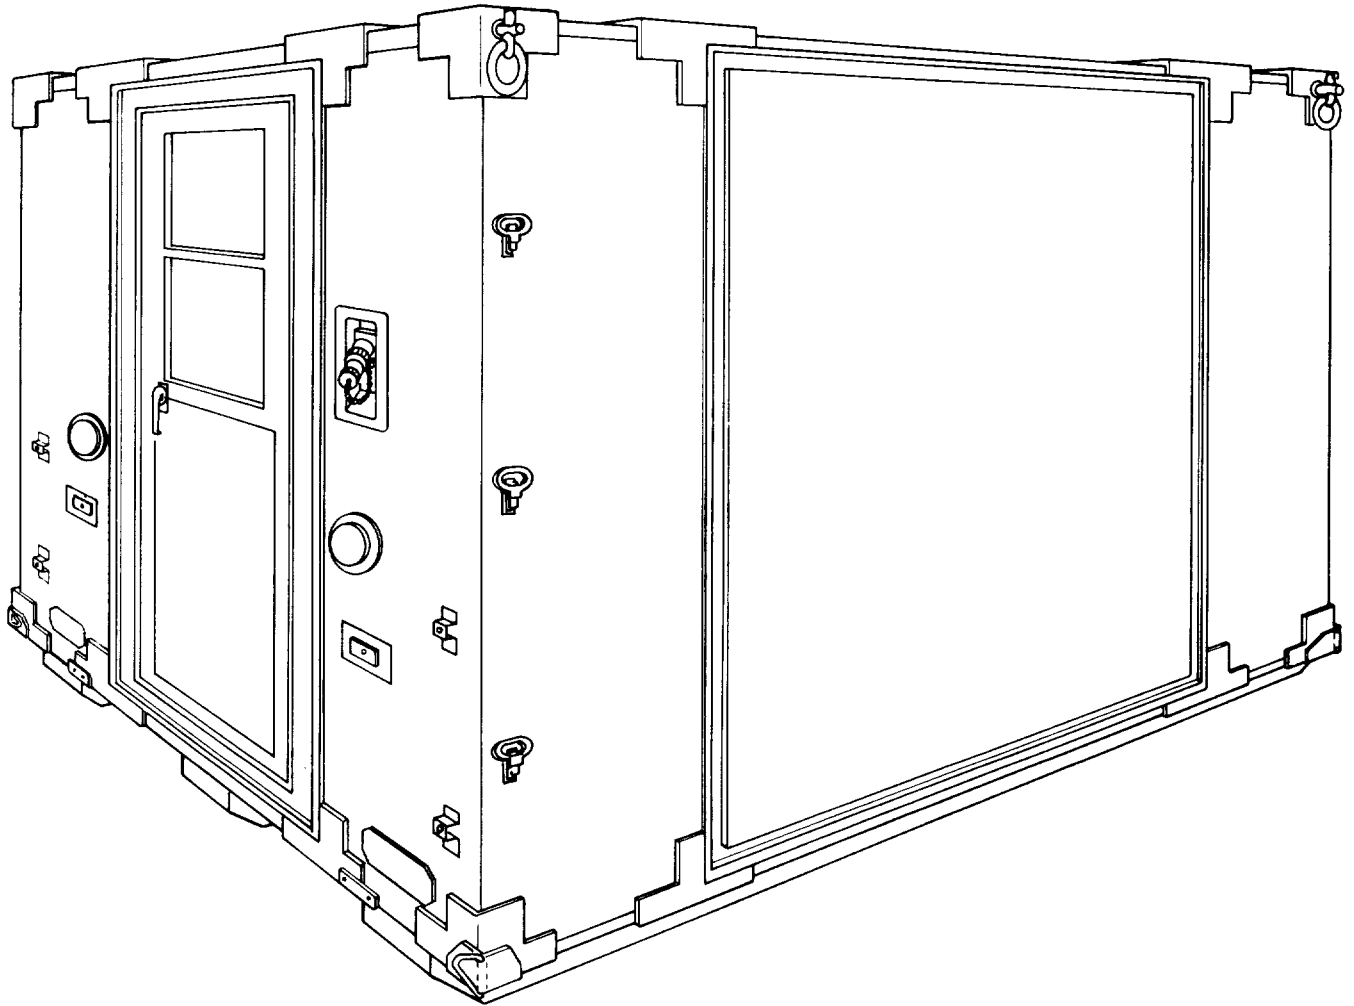

Figure 1-2. Electrical Equipment Shelter, S-389/MSA-34 (Modified)
a. Electrical Equipment Shelter S-389/MSA-34 (Modified). Refer to figure 1-2. The central is housed in a standard shelter that has been modified for installation of components. Modification includes installation of cable access assembly and the necessary hardware for the installation of corner consoles, a cabinet safe, bulletin board assemblies, a clock, a telephone pass through junction box, and chair tiedown sockets. As a part of the modification, standard electrical ducts are replaced with special electrical ducts.